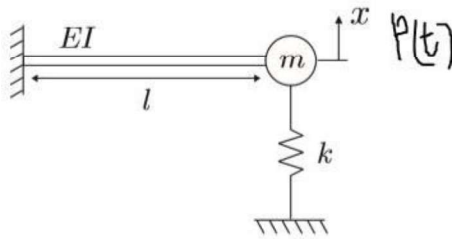

Figure-1
1. Write the equation governing the vibration of the system as shown in figure-1, formed of point mass attached to the tip of massless clamped beam of length  $l$  and bending stiffness  $EI$  and a spring with stiffness  $k$ .